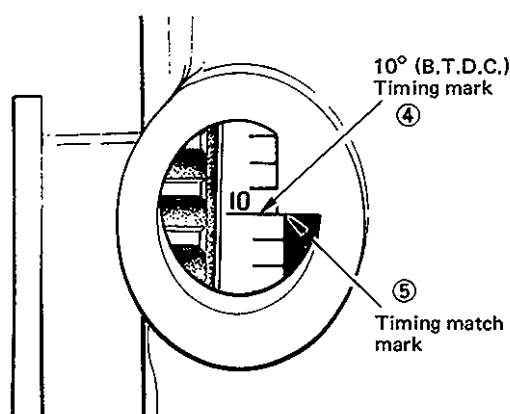

Fig. 8-22
If mark ④ is in register with the mark ⑤ on transmission case, the ignition is timed correctly. See Fig. 8-22.